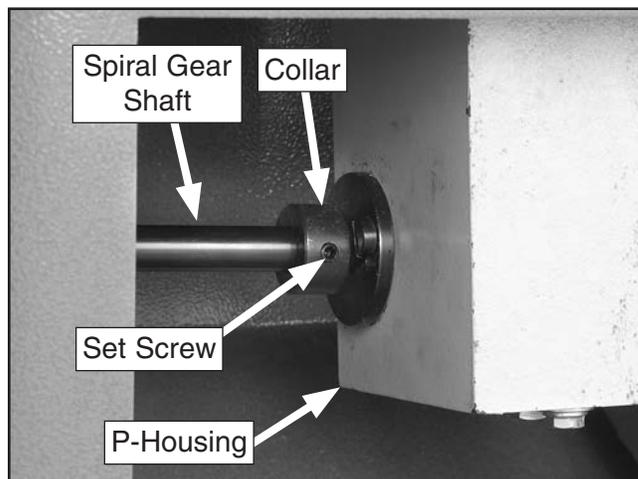

Figure 5. Collar on spiral gear shaft.
10. Loosen the set screw that secures the collar on the spiral gear shaft behind the P-housing (**Figure 5**).